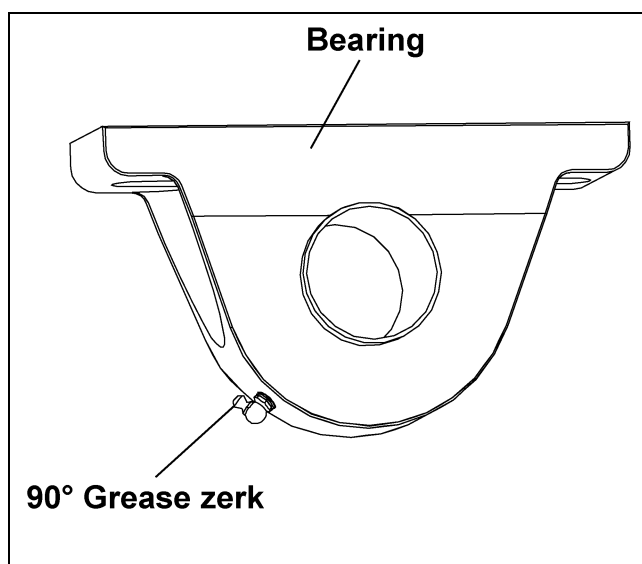

Figure 5H
- B. Replace standard grease zerks with 90° grease zerks on both bearings. Make sure the 90° grease zerk is turned as shown in Figure 5H, so the zerks are accessible from the center of the tractor drive stand.